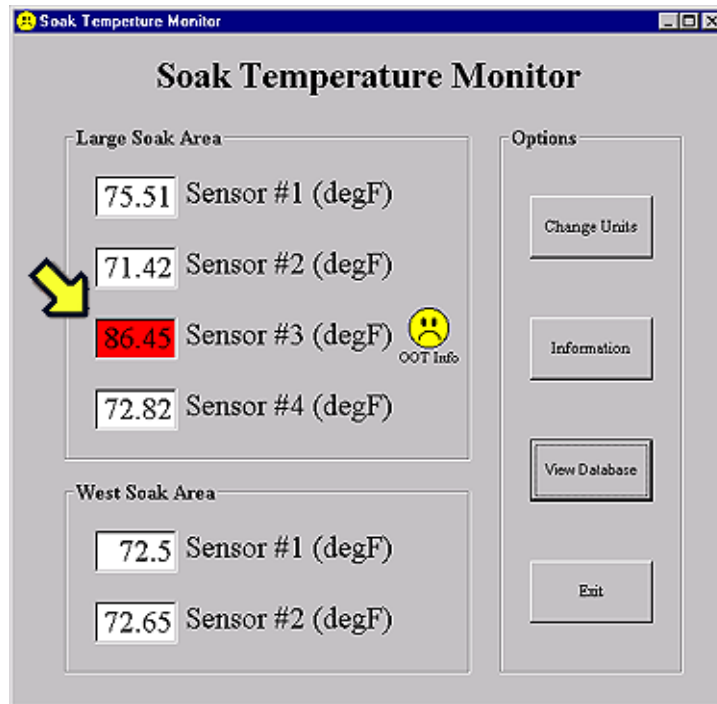

Figure 5
- 105 If the soak area temperature falls below 68 •F, or rises above 86 •F, the STM will show the out of tolerance sensor temperature in red and will include a warning icon. See the arrow in Figure 5.